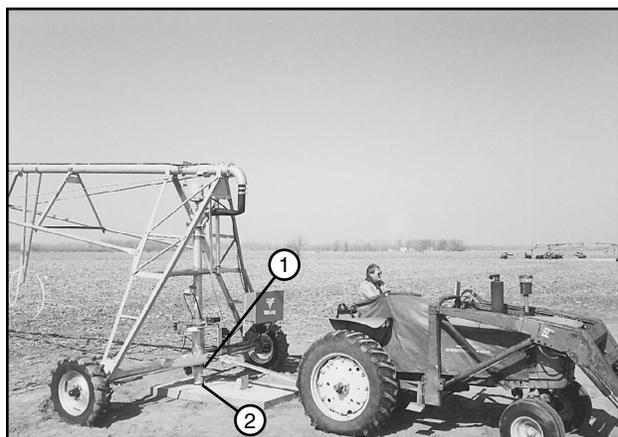

Figure 40-3 1. Riser Pipe
16. Carefully align the riser pipe with the anchor pipe as the pivot approaches the pivot pad. Remember, you cannot back the center pivot up. See figure 40-3.